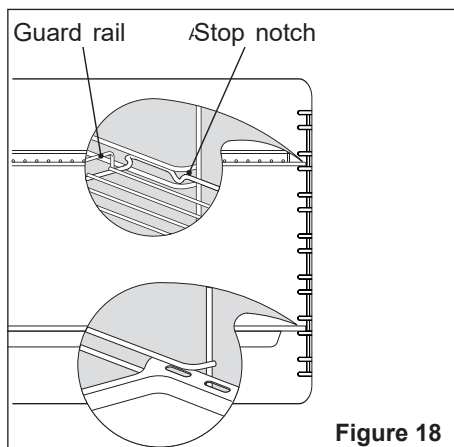

Figure 18
- Slide in, on the guides, the shelf and the tray (fig. 18).